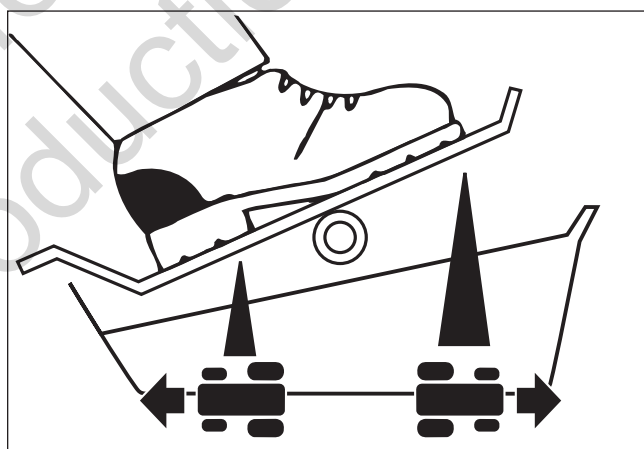

Figure 4. Transmission Speed & Direction
6. Refer to the diagram in Figure 4. To travel forward gradually depress the front of the foot control pedal. Release the pedal to stop.